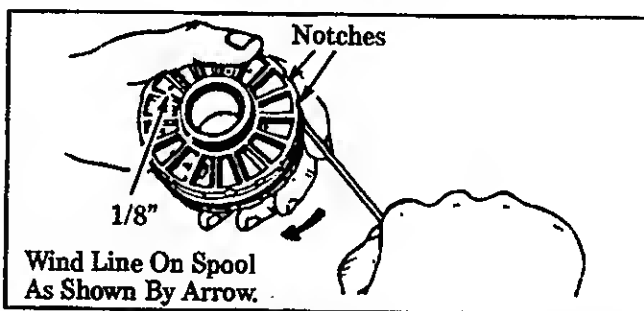

Figure 25
- d. Insert 1/16" to 1/8" of the end of the Line through one of the holes in the rim of the Spool. Allow no more than 1/8" line to extend beyond the rim to avoid interference with line release action. Figure 25.
- e. Wind the Line onto the Spool in the direction shown by the arrow on the Spool and as tightly and evenly as possible so the line will feed properly. Figure 25.